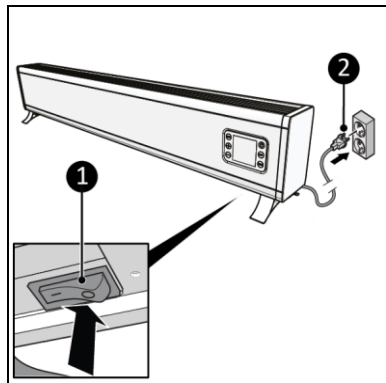

Figure 12
2. Make sure the ON/OFF switch is in the OFF position (Figure 12, pos. 1).
3. Place the power plug (Figure 12, pos. 2) into an earthed wall socket that is easily accessible. Use an earthed wall socket with a minimum power of 2000 Watt.